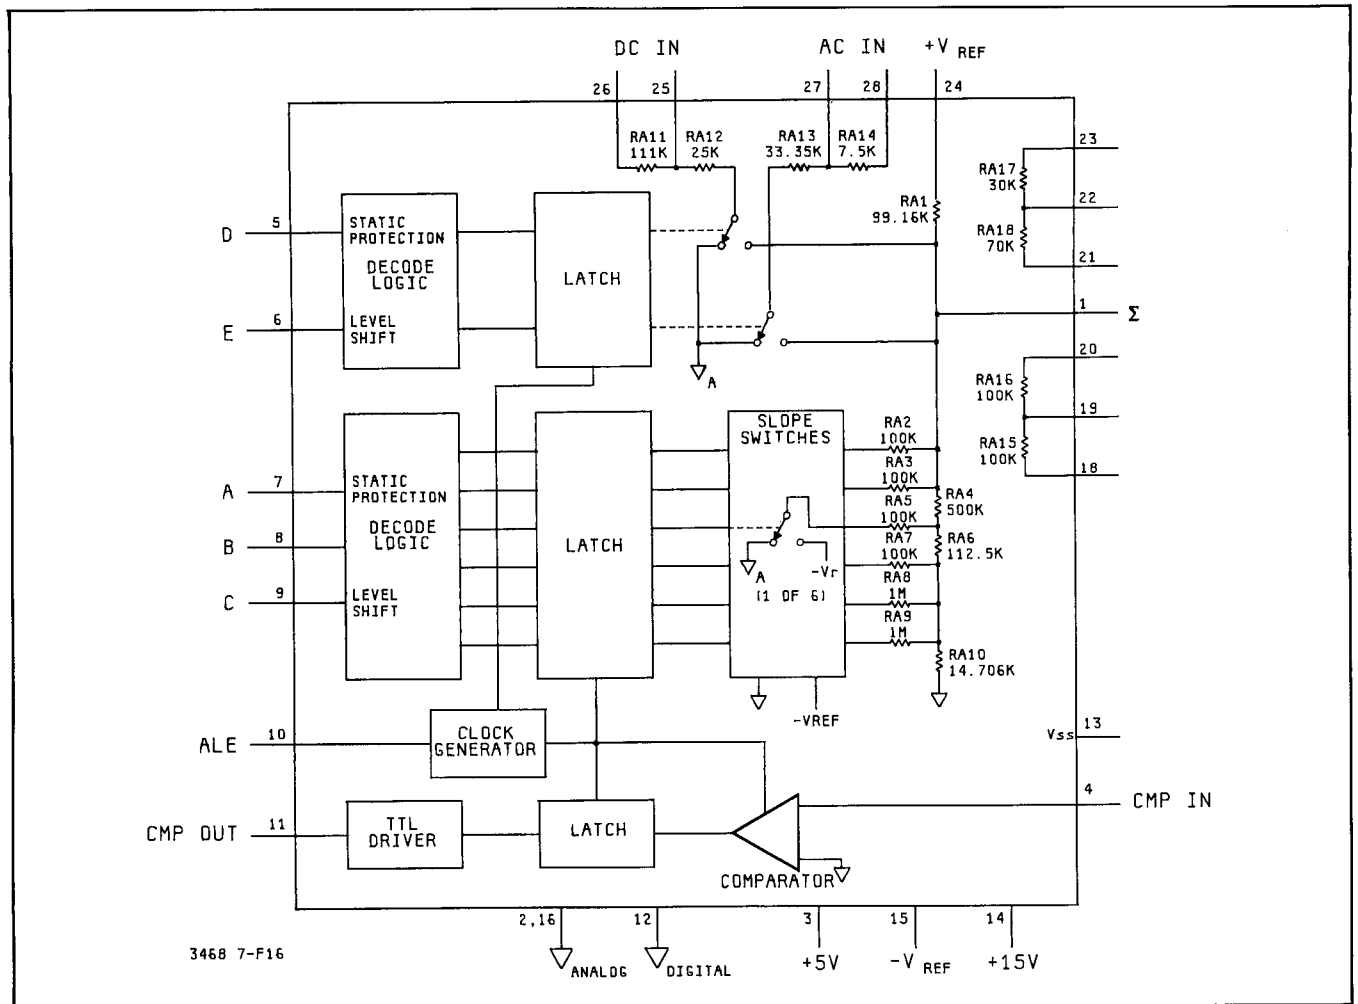

Figure 7-F-16. A/D Hybrid (U403)
d. **Voltage Reference.** The Voltage Reference provides three stable reference voltages: $-10V$, $+10V$, and a buffered $-10V$. The circuitry, shown in Figure 7-F-17, is explained as follows: